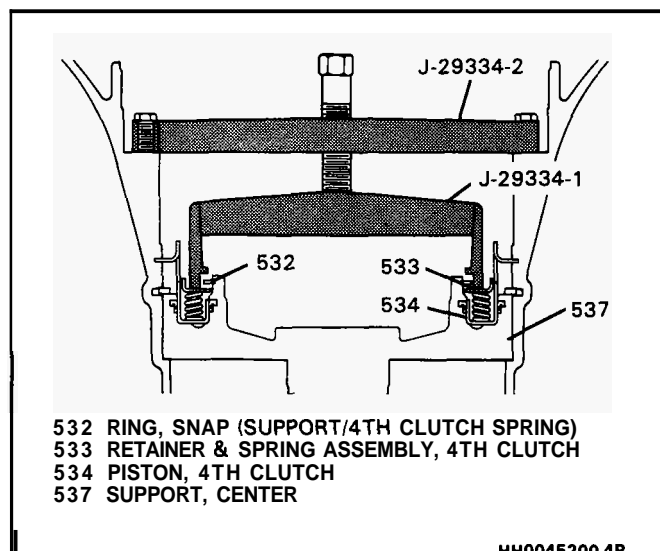

Figure 21 Fourth Clutch Piston Removal
□ Remove or Disconnect (Figure 21)